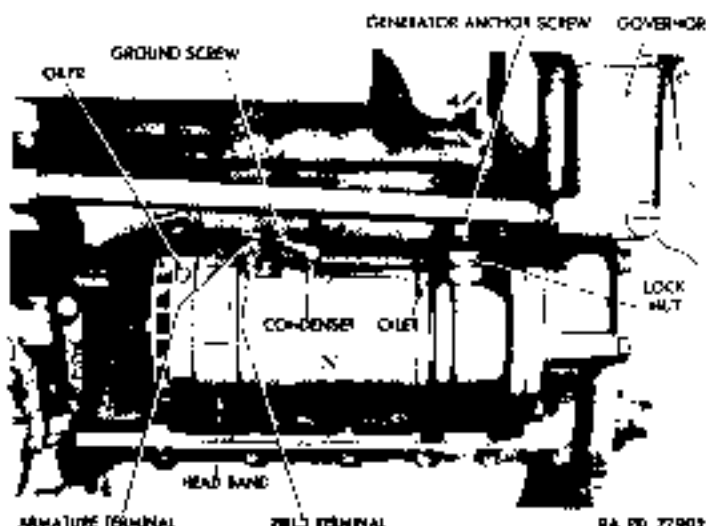
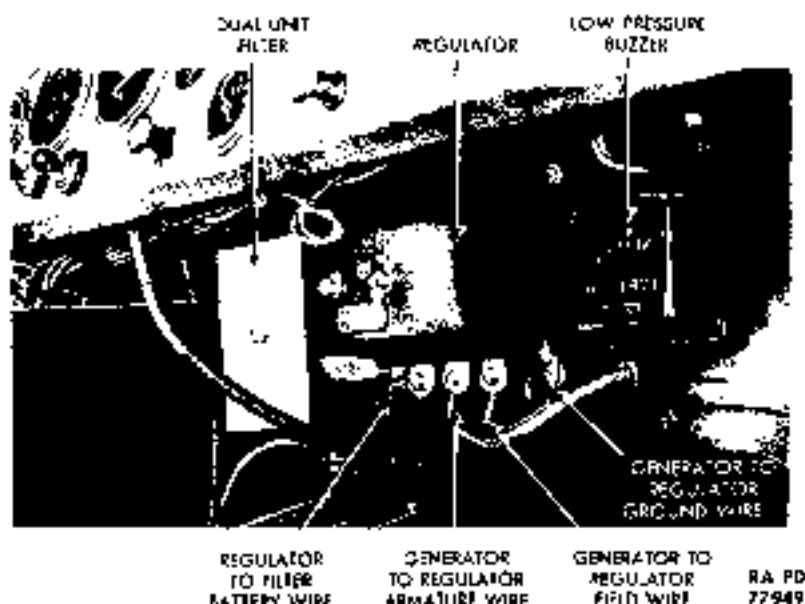

Figure 48 — Generator Installed
Figure 49 -- Generator Regulator Installed
(1) **DESCRIPTION** (fig. 48). The heavy-duty two-brush type 6-volt generator is located at the right front of the engine between engine and frame side rail. It is accessible through the splash shield opening under the right front fender, and is gear driven from the engine gear case. The generator furnishes electrical energy to keep batteries charged, and to operate the electrical system.
(1) **INSPECT GENERATOR.** Remove generator head band (fig. 48). Note condition of commutator. If dirty or discolored, clean commutator (step (2) below). If commutator is rough, out of round, or if it has high mica, notify higher authority. Hook a spring scale to brush holder lever, pull scale at right angles to holder, and note reading as holder lifts from brush. If not within the limits of 64 to 68 ounces, notify higher authority. Inspect brushes, and if worn to one-half the original length, replace brushes (step (3) below). Check brush lead connections to be sure they are clean and tight. Replace head band.
(3) **DETACH GENERATOR** (fig. 48). Loosen lock nut and generator anchor screw, and work generator back carefully until gears are out of mesh. Lift generator from engine.
(2) **ATTACH GENERATOR TO ENGINE** (fig. 48). Insert generator into engine opening, and carefully work gear into mesh with camshaft and governor gears. Tighten anchor screw and lock nut.
(4) **POLARIZE GENERATOR**. Momentarily connect a jumper wire between armature terminals of generator (fig. 48), and voltage regulator (fig. 49), then remove jumper wire.
(1) **DESCRIPTION** (fig. 49). The generator current and voltage regulator is mounted in driver's compartment on dash under center of instrument panel, and is composed of three units: Circuit breaker, current limiting regulator, and voltage regulator.
**(2) TABULATED DATA.**
(1) **DISCONNECT WIRES** (fig. 49). Disconnect all four wires from regulator terminals. *NOTE. Tag wires to facilitate installation.*
(2) **DETACH REGULATOR FROM DASH** (fig. 49). Remove the two screws, lock washers, and bonding washers which attach top corners of regulator to dash. Have one man work through radiator filler door to keep nuts from turning, while another man removes bolts which attach bottom corners of regulator to dash. Remove lock washers, and lift regulator from dash.
(1) **ATTACH REGULATOR TO DASH** (fig. 49). Position regulator on dash with terminals down. Install bonding washers between regulator and dash, lock washers, and screws which attach upper corners of regulator to dash. Insert bolts which attach lower corners of unit to dash through regulator and dash. Hold bolts rigid while another
(2) **CONNECT WIRES** (fig. 49). Connect wires to regulator as follows: Blue wire from generator armature terminal to armature terminal, yellow wire from generator field terminal to field terminal, green wire from supply filter to battery terminal, black wire from generator ground screw to ground terminal.